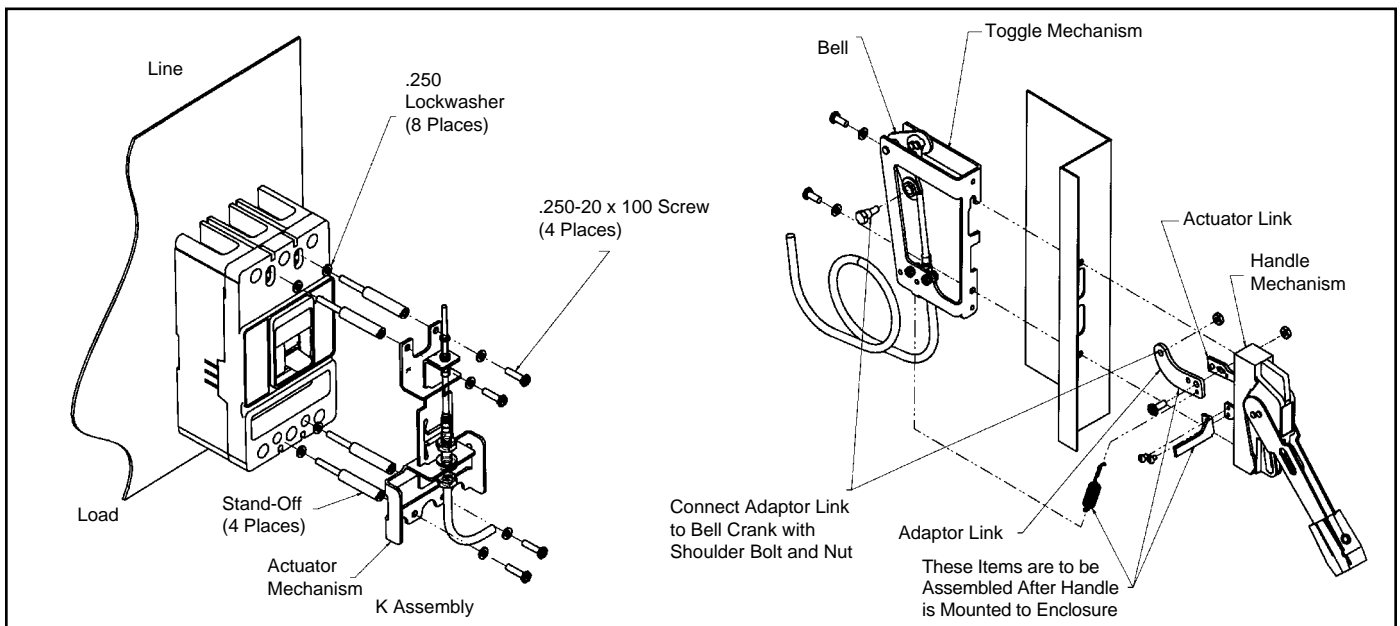

Figure 1-1 Securing Actuator Mechanism to Breaker and Toggle Mechanism and Handle to Flange
1. Install breaker with the four standoffs and lockwashers. (See Figure 1-1).